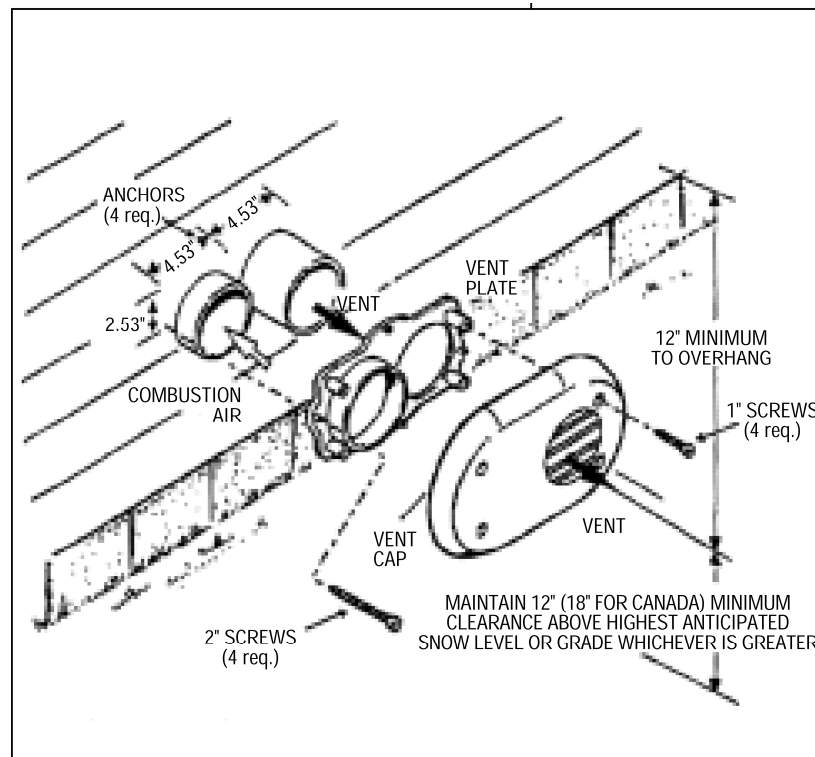

Figure 4
Figure 4 shows the installation of the side wall vent kit.
4. Use a knife, file or reamer to remove burrs from the inside and outside of the pipe end, as these will hinder the integrity of the joint. All sharp edges should be removed from the inside and outside edges of the pipe to prevent the pipe from pushing the solvent cement into the fitting socket, thereby causing a weak spot to form. The pipe end should be chamfered, as shown in Figure 4.